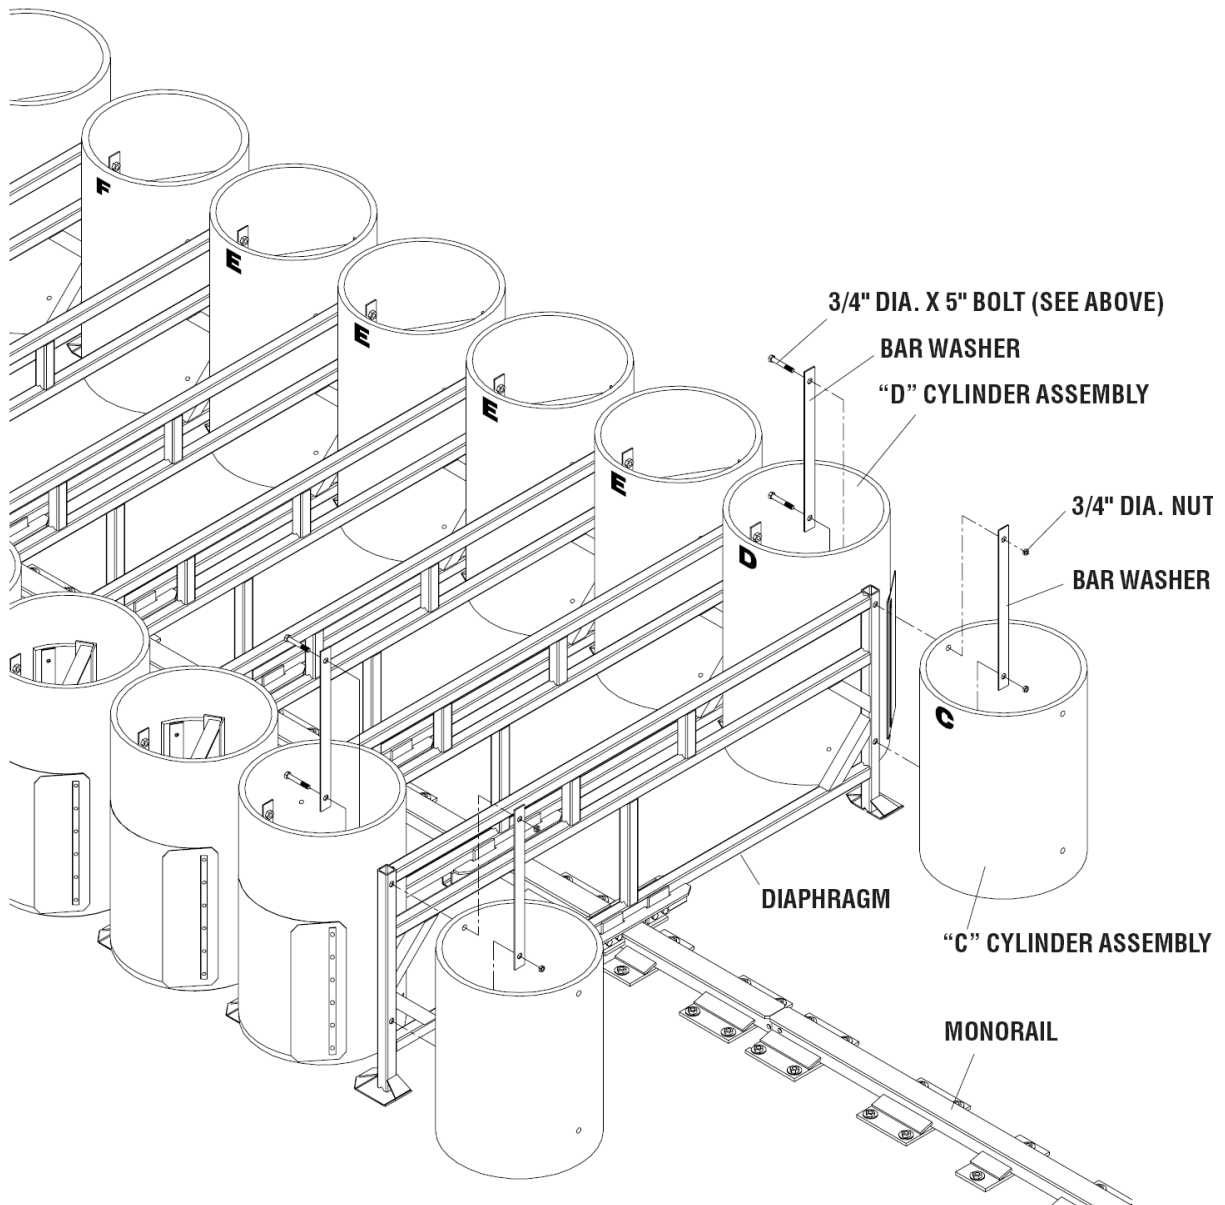

Figure 28
3. Reassemble "C" Cylinder/Diaphragm Assembly onto "D" Cylinder Assemblies as shown in Figure 28.